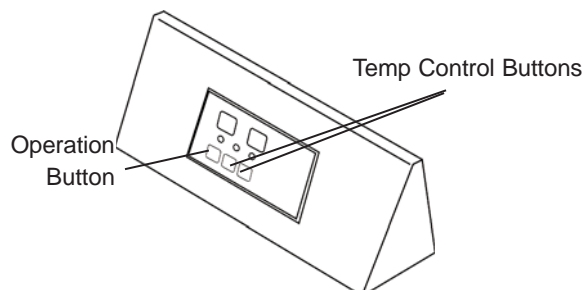

Figure 5 – Control Parts
NOTE: When installing wheels, tube valve should face out from support frame (Figure 5).
2. Place flat washers (L) and cotter pins on axle ends and bend cotter pins with long nose pliers to secure.
3. Place wheel cap on flat washers (L) and put wheel cap in flat washers (L) end.
4. Place heater on wheel support frame. Make sure air inlet end (rear) of heater is over wheels. Align the holes on fuel tank flange. Insert screws through handles (front and rear), fuel tank flange, and wheel support frame as shown in Figure 5 and attach nut finger tight after each screw is inserted.